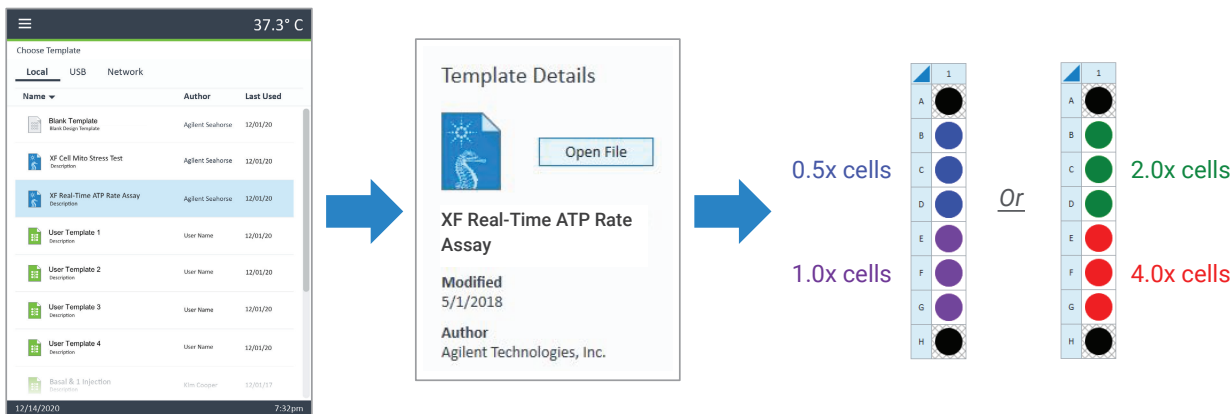

Figure 2. Select the XF Real-Time ATP rate assay template to modify.
7. Design an assay template using the Seahorse XF Real-Time ATP rate assay template on the Seahorse XF HS Mini analyzer (Figure 2).